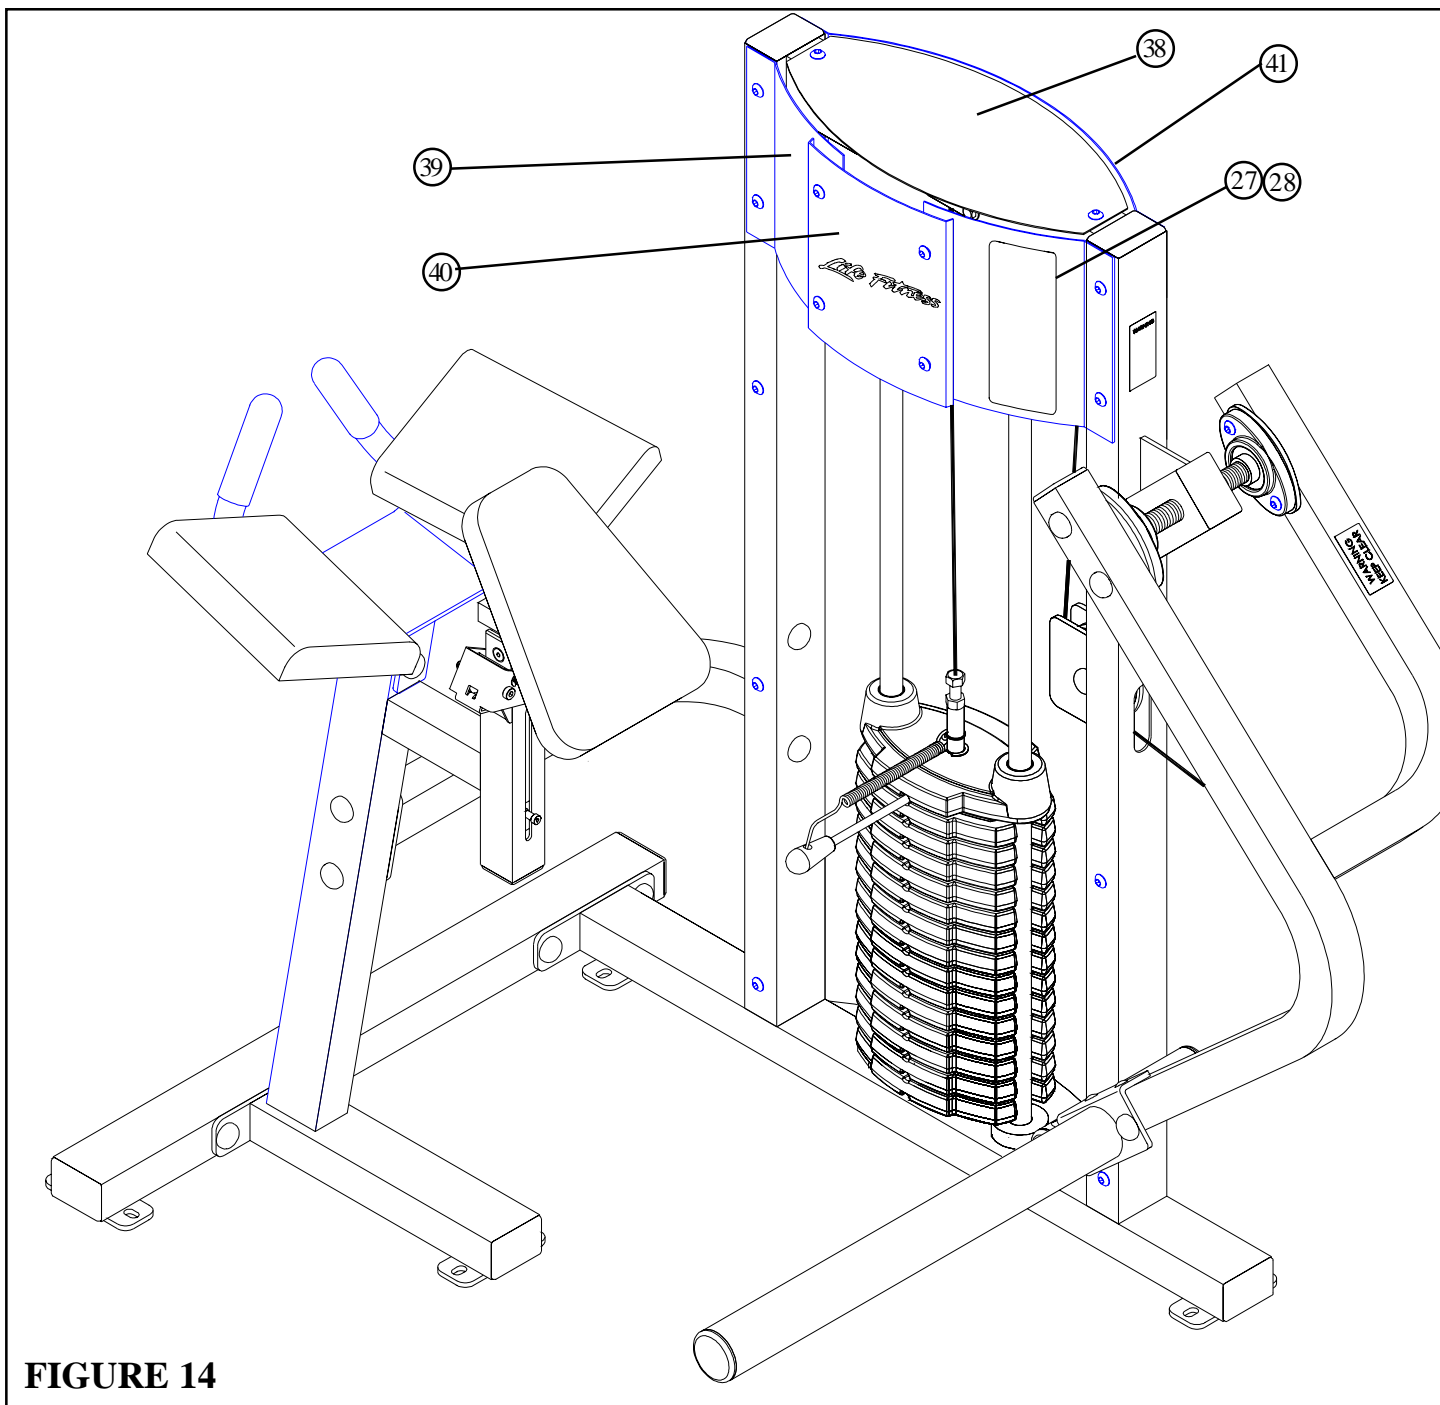

FIGURE 14
- Assemble the PLACARD LABEL (27) or the LANGUAGE ADDENDUM PLACARD LABEL (28) to the FRONT SHROUD as shown in FIGURE 14.